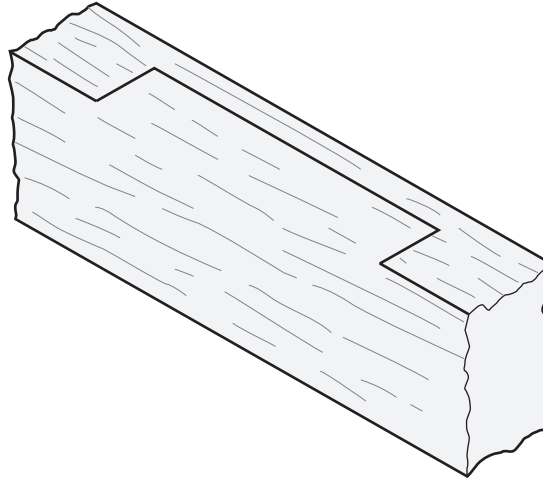

Fig. 13.5
- (g) Butt hinges will be used to allow the tray to be tilted at different angles. Fig. 13.5 shows part of a recess, 50×10 , cut out in a rail to take one of the butt hinges. Draw on Fig. 13.5 to show a butt hinge screwed into the rail.